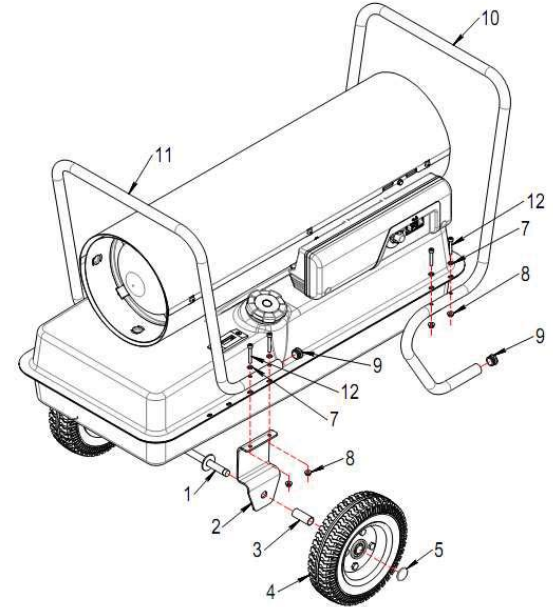

Fig. 2
Before adding fuel, installation and use, assemble the loose parts as follows (see Fig. 2): Slide axle (1) through axle brackets (2). Assemble in order: spacers (3), wheels (4), cap nuts (5) on each end. Secure cap nuts (5) by tapping lightly with a hammer. Connect axle assembly to tank and front handle (11) using four